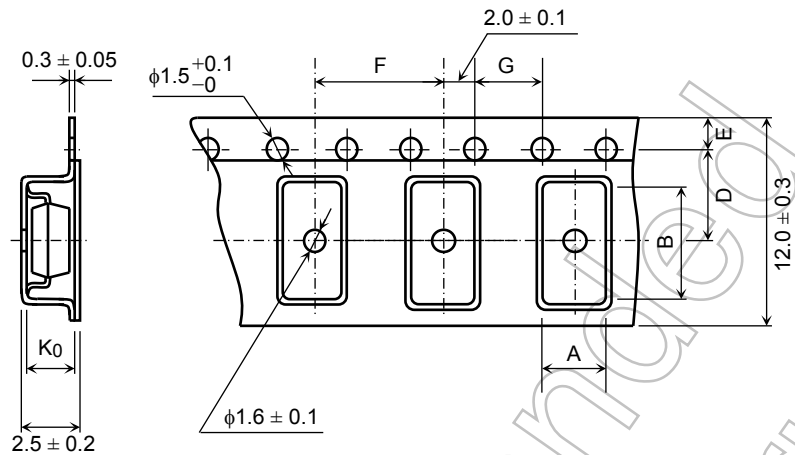

Figure 3 Tape Forms
- (1) Tape material: Plastic (protection against electrostatics)
- (2) Dimensions: The tape dimensions are as shown in Figure 3 and table 2.